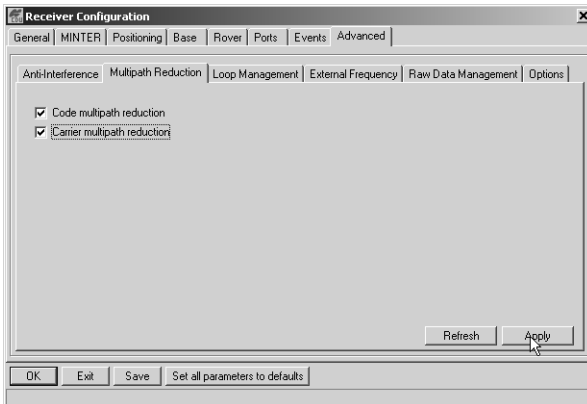

Figure 2-10. Advanced Configuration – Multipath Reduction
- Click the **Multipath Reduction** tab, enable the following boxes, and click **Apply** (Figure 2-10).